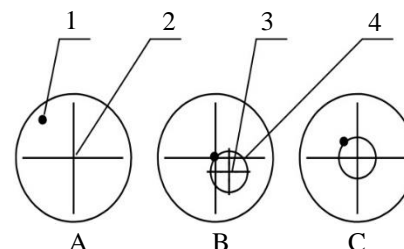

Figure 6
- 4.2. Search one target in field of view, adjust it to the center of view. See Figure 6 A.
- 4.3. Rotate the stage. If the stage out of center, the target will encircle the center of circle. See Figure 6 B.
- 4.4. To center the center of circle in the field of view. Use the two centering screws, the stage centering adjustment can be finished. See Figure 6 C.